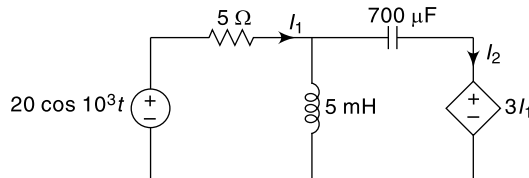

Fig. 14.88
14.99 In the network shown in Fig. 14.88, find I_1 and I_2 .